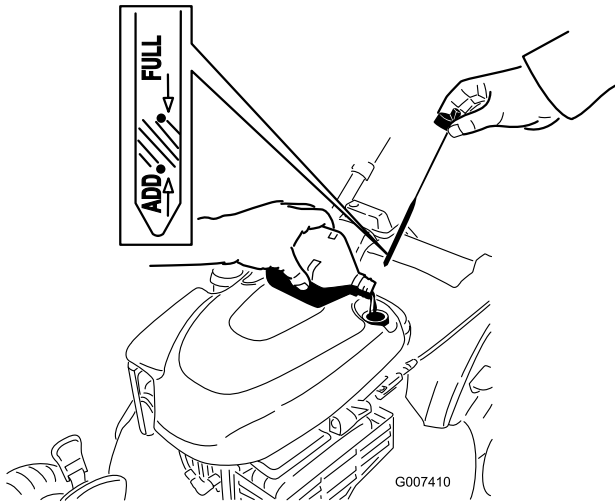

Figure 5
1. Remove the dipstick (Figure 5).
2. Slowly pour oil into the oil fill tube until the oil level reaches the **Full** line on the dipstick (Figure 5). **Do not overfill.** (Max. fill: 20 oz., type: SAE 30 detergent oil with an API service classification of SF, SG, SH, SJ, SL, or higher.)